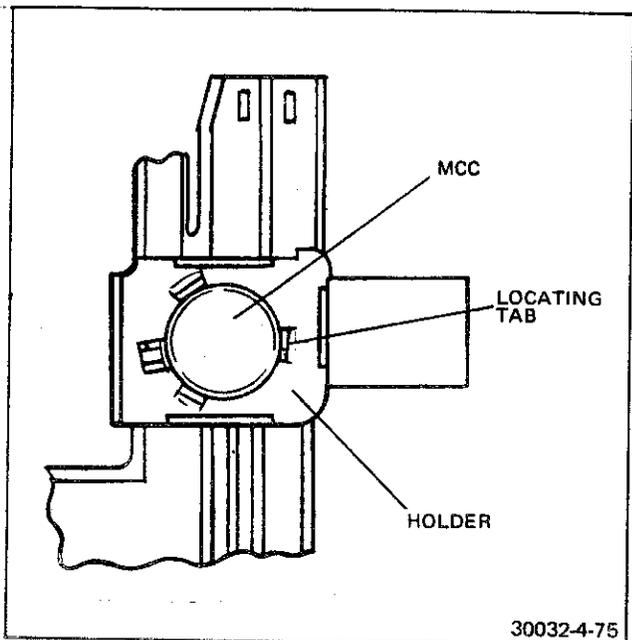

FIGURE 4-75 LOCATING TAB POSITION ON MCC
2. Prior to installing the new flex circuit, a new MCC must be installed on the flex circuit. Refer to Figure 4-75 for proper location of the MCC tab and put the MCC in place on the circuit.
14. Refer to Figure 4-75 and press the MCC holder into place on the MCC.